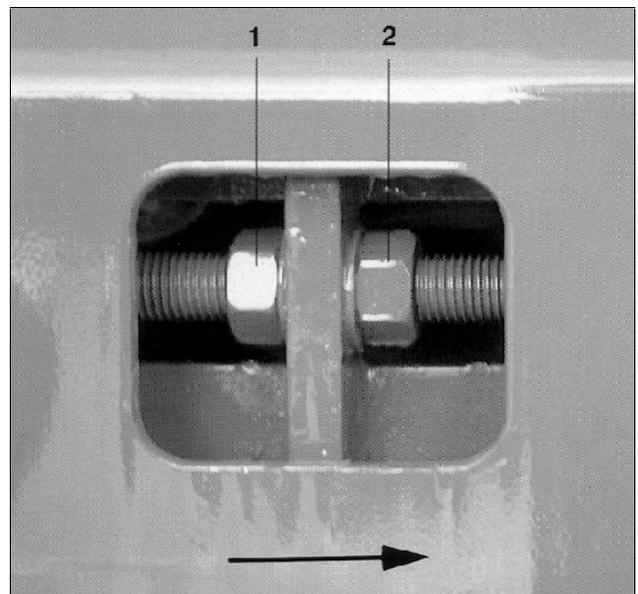

Fig. 55
1. Loosen the rear counter nuts (Fig. 55/1), on both sides by turning them to the left (the direction of travel is indicated by the arrow).
2. Turn the hexagonal nuts (Fig. 55/2) on both sides to the left by the same amount (the direction of travel is indicated by the arrow).
The amount that the hexagonal nuts (Fig. 55/2) have been moved must be the same on both sides of the belt unit. Do not turn the two hexagonal nuts (Fig. 55/2) by more than 1/2 a spanner turn. Tighten the counter nuts and check whether the conveyor belt is running evenly.